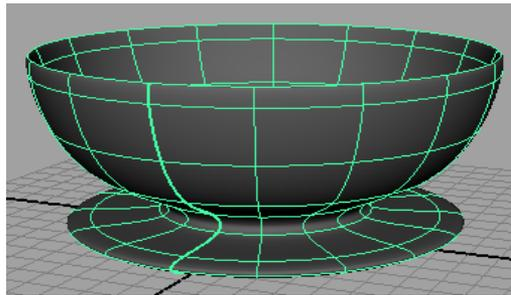

*Figure 3-83* The tea cup created
1. Choose the **Four View** button from the Tool Box to switch to four views. Move the cursor to the persp viewport and then press the SPACEBAR key to maximize the persp viewport. Select the profile curve in the viewport. Next, choose **Surfaces > Revolve** from the menubar; the tea cup is created, as shown in Figure 3-83.